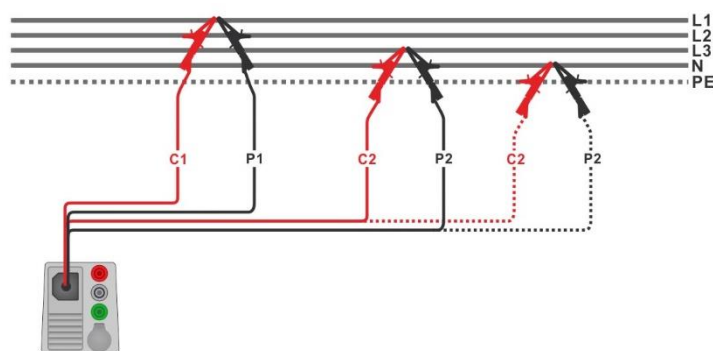

Figure 7.58: Phase-phase or phase-neutral 4-wire line impedance measurement
- › Connect 4-wire test lead to the object under test, see **Figure 7.58**.